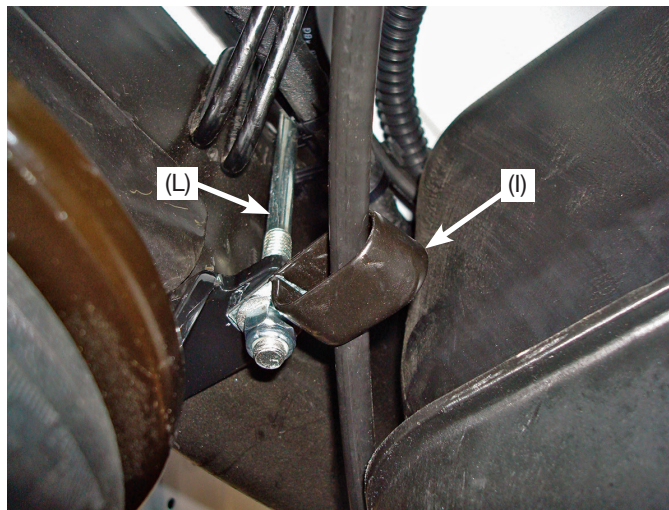

fig. 10
14. Insert the emergency brake cable into the large frame clamp (I) (fig. 10).
15. Install the large frame clamp onto the U-bolt (L), inside the frame on the left (driver's) side with the clamp pointing inboard toward the center of the vehicle (fig. 10).
16. Torque the U-bolt as specified in step 9 if using the U-bolt to mount the upper bracket (fig. 10). If the truck has a fifth-wheel bracket use the center hole, instead of the U-bolt, to mount the upper bracket. Attach the large frame clamp (I) using the 3/8" bolt (V), 3/8" flat washer (S) and nylon lock nut (R) supplied. Tighten to 10 lb.-ft. (14Nm).